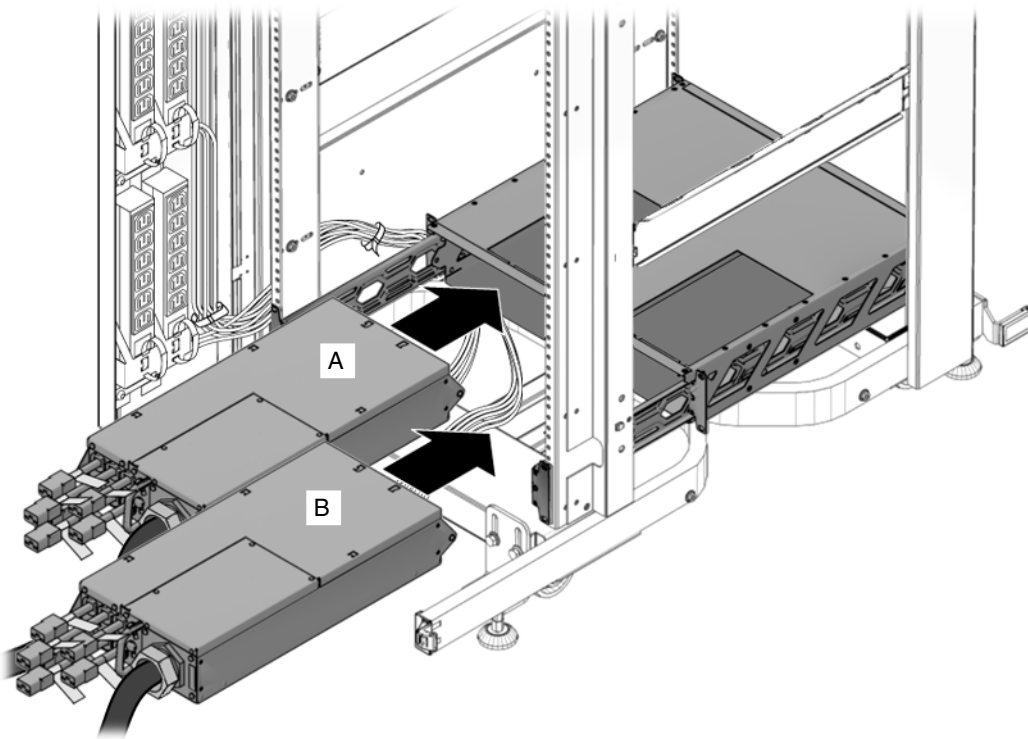

FIGURE 2-8 Power Distribution Module Installation
4. Install the power distribution modules from the back of the MPS (FIGURE 2-8).
1. Route the cable bundles between the side panel and the rack columns, and under the modular power supply carrier (FIGURE 2-8).